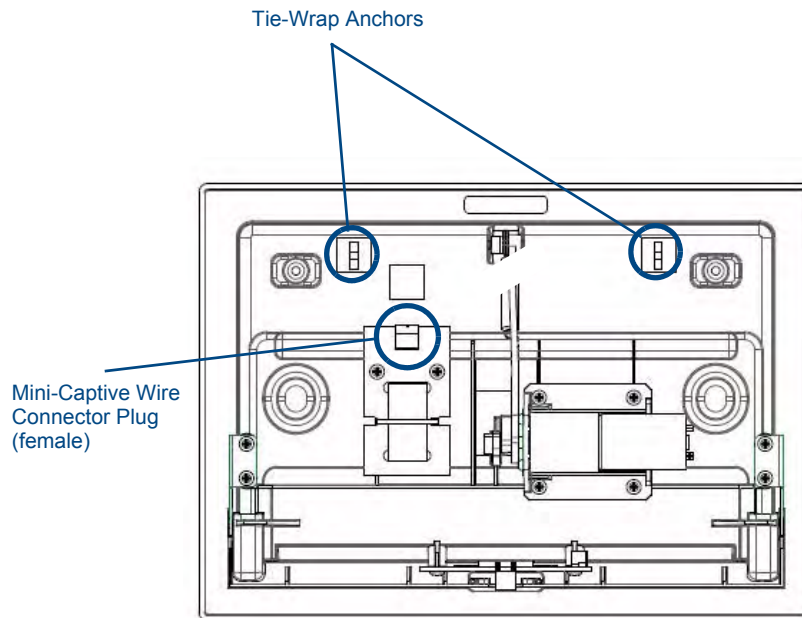

FIG. 12 MVP- WCS-52 - Rear
7. Secure the power cable to the device, using either of the two tie-wrap anchors included in the Installation Kit at the top rear of the device (FIG. 12). Point the head of each tie wrap toward the center of the device.